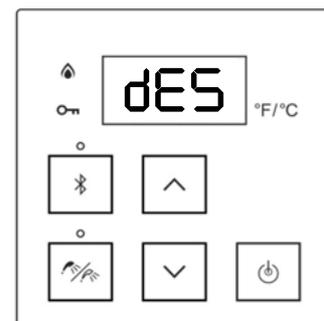

Figure 80
11. Press the "B" button for 1 second and release when display shows "dES" (descaling) (Figure 80). Push the "A" button. "dES" starts blinking.